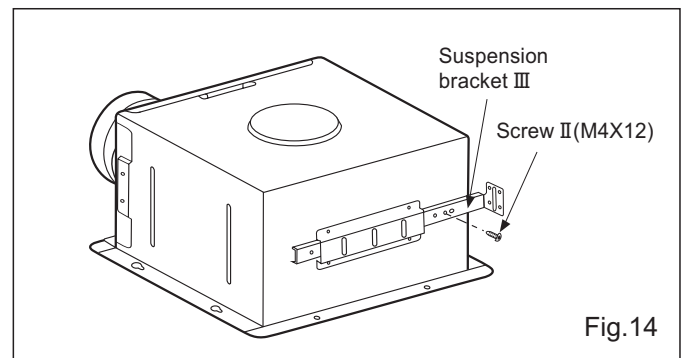

Fig.14
2. Connect the suspension bracket III to fan body. (Fig.14) (Select the hole by checking I-joist size and fix the screw to the frame hole.)